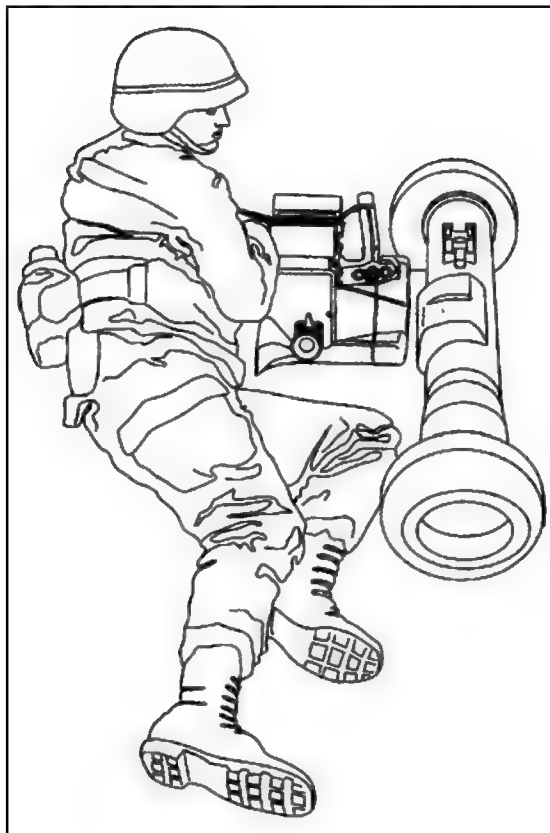

Figure 2-26. Preparing to connect the CLU.
(1) Set the round on the ground with the flat sides of the end caps face down. The CLU interface connector and latch assembly should be face up.
(2) Ensure the round points toward the target area.
- (3) Place the carry bag (with CLU) on the left side of the round by the forward end.
- (4) Lay on the left side along the left side of the round next to the carry bag (Figure 2-26). Maintain a low profile to limit observation of movement.
- (5) Remove the CLU from the carry bag.
- (6) Turn the power switch to the NIGHT position.
- (7) Connect the CLU to the round.